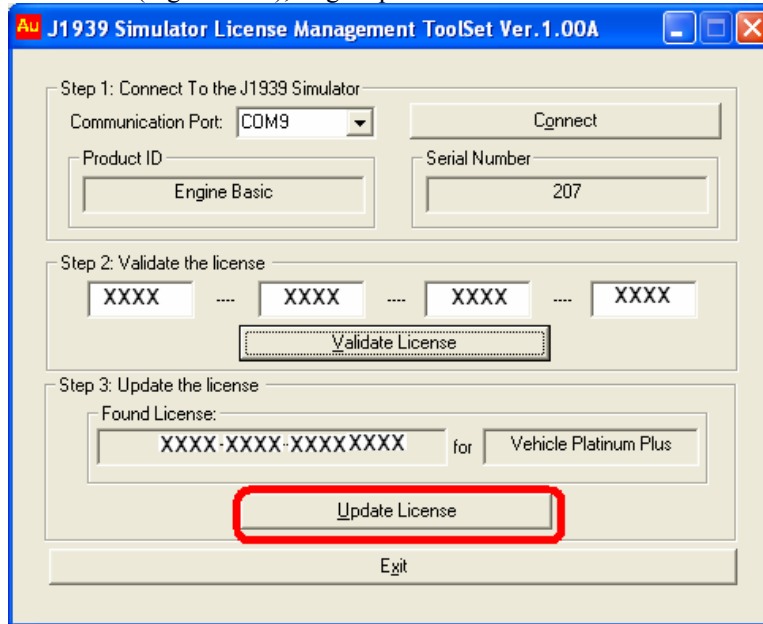

Figure B-13 Engine premium license validate
- After a validate license is entered, Au J1939 Simulator License Toolset will show the license information for the new license code, click “Update License” button (Figure B-13), Engine premium is demonstrated here.